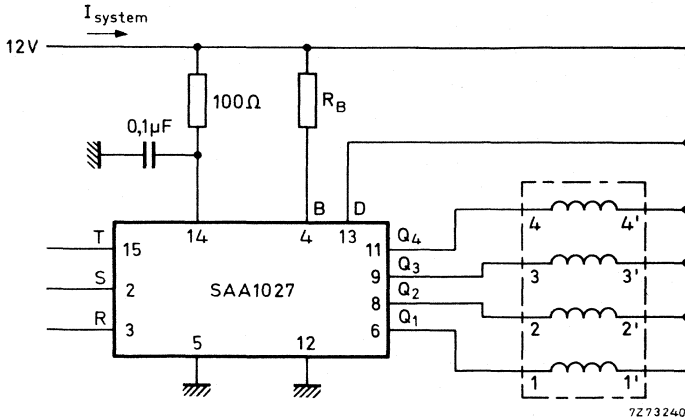
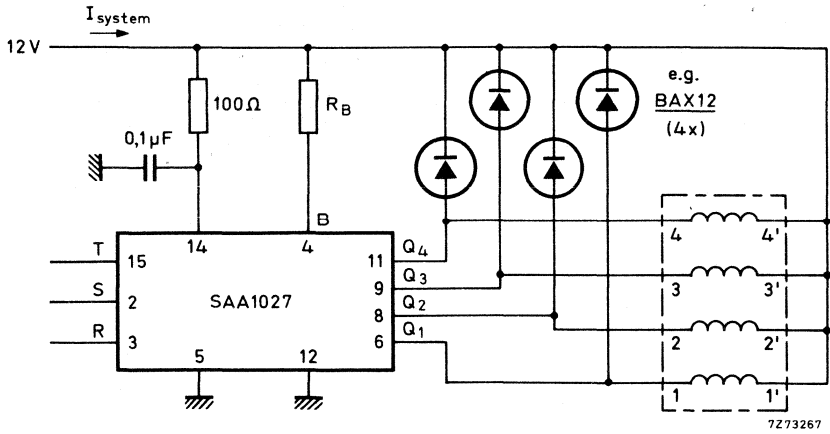

Fig. 2
Fig. 3
- The common line of these clamping diodes (pin 13) must therefore have the shortest connection to the common line of the motor windings. Due to this effect, the temperature rise of the IC increases with the increase of the stepping rate of the stepper motor. This reduces the max. permissible ambient temperature in which the IC can operate. To overcome this phenomena, external diodes e.g. BAX12, across the motor windings are recommended (see Fig. 3 and Table).
- When both the IC and the motor are connected to the same supply, a simple RC network must be used in the supply line of the logic part to prevent the logic sequence from being discontinued by transient spikes, caused by the switching of the motor coils. This network is depicted in Fig.2 (and Fig. 3). The capacitor should be connected as close as possible to pin 14 and 5 (or 12).